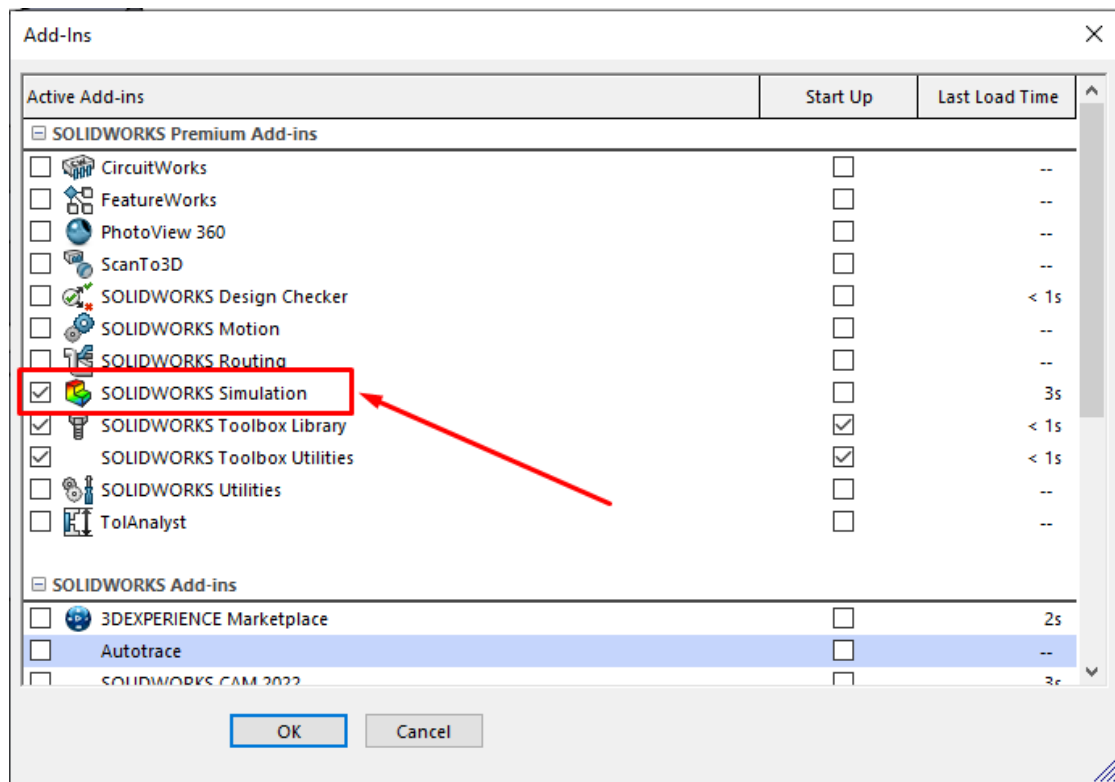

Figure 2 – Activating the SolidWorks Simulation module
2. In the window that appears, find SolidWorks Simulation in the list (Fig. 2).
3. Check the boxes next to SolidWorks Simulation in the left column (to activate in the current session) and, optionally, in the right column (to load automatically when SolidWorks starts) (Fig. 2).